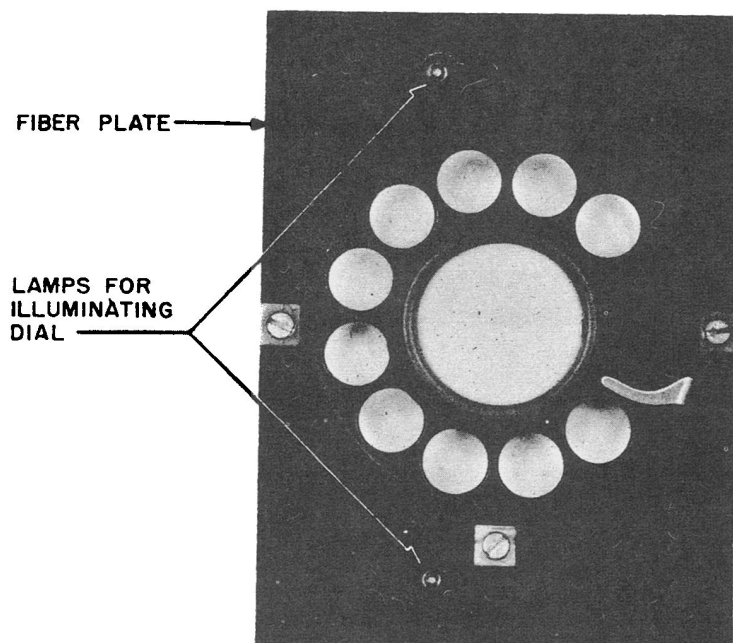

Fig. 13 — 750-type Apparatus Unit, Front View
6.02 Component parts of 750-type apparatus units are mounted, either directly or by means of brackets, on a 3-3/4 by 5-inch fiber plate (Fig. 13 and 14). The apparatus unit may be placed at either end of the assembly, as required.